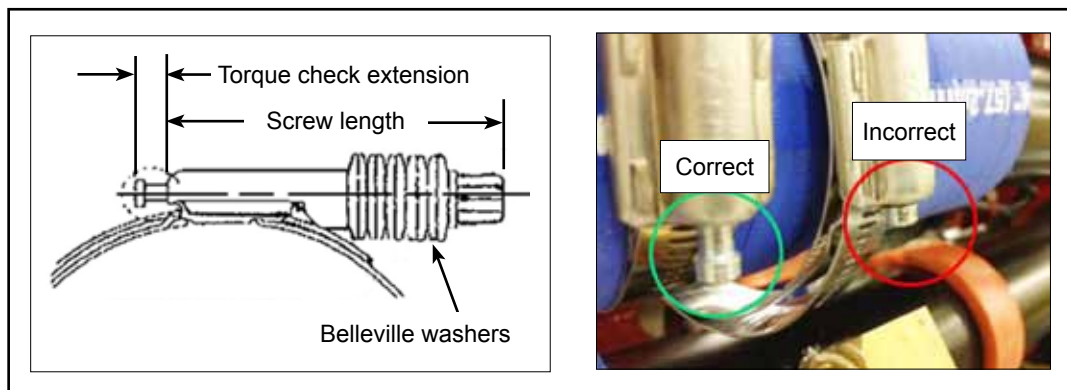

Figure 4 - Torque Check Extension Visual Inspection
1.3. After tightening perform a visual inspection of the "Torque check extension" (Figure 4). Without confirming the value of the torque applied, the clamp is tightened when the extension is out of the cylinder and the Belleville washers are almost flat.